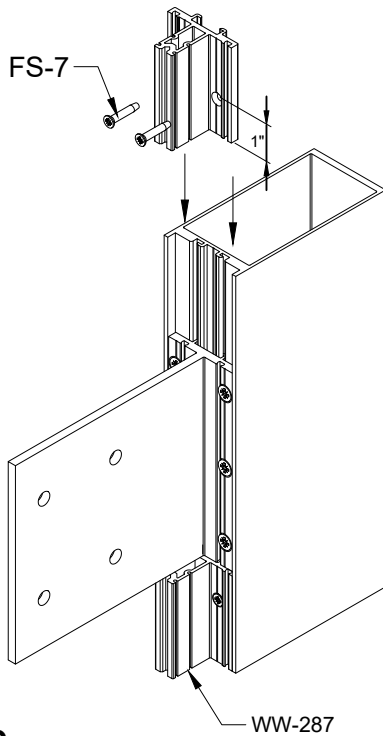

FIGURE 9
- 6) Optional captured adaptors are also available. WW-287 will be the standard captured glazing adaptor and WW-289 may be used for thermal composite applications. Attach captured adaptors using the FS-7 fasteners at each side of adaptor at 24" on center and 1" from each end. See FIGURE 9 & 10. Figures below show installation of a captured glazing adaptor above and below a sunshade anchor. An 1/8" joint should be held above and below anchor. Slide adaptors onto mullion as required for project starting at bottom of mullion and working to top. Attach anchor as shown on page 8, FIGURE 7 & 8.